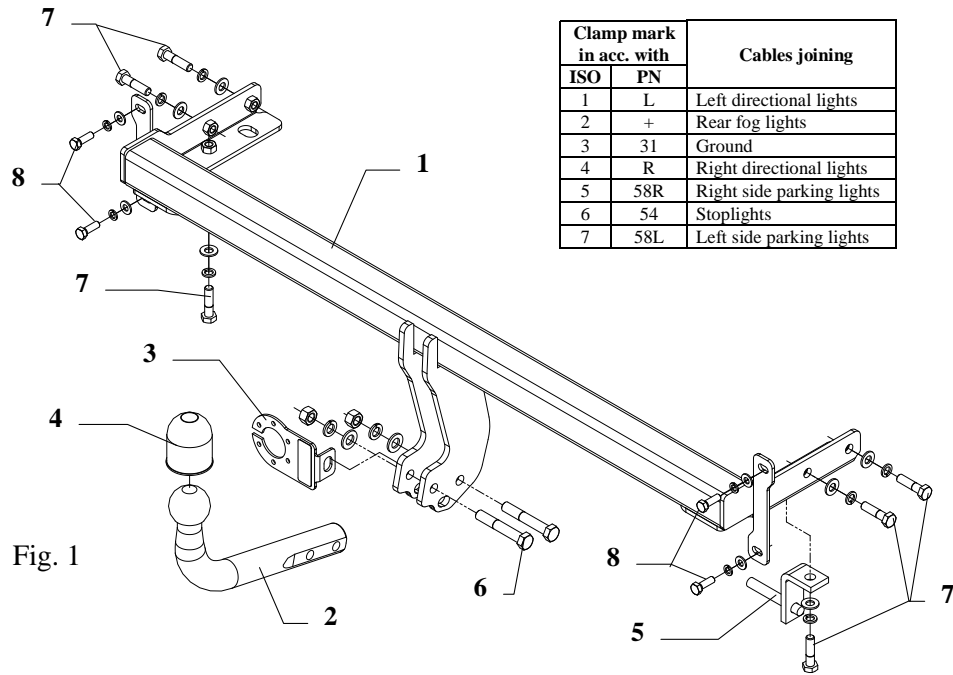

Fig. 1
4. Slip main bar of towbar (pos. 1) to chassis members in this way, so holes in towbar tally with original holes in chassis members and screw all using bolts M10x40mm (pos. 7), use plain and spring washers. On the right side place muffler handle (pos. 5), see fig. 1.